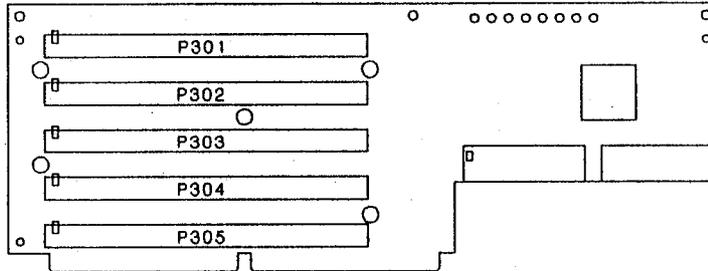

*Figure 5-3. Inside the Computer*
6. Slide the cover forward slowly, taking care not to catch any cables, wires, or components. Make sure the support flange on the bottom of the cover does not catch on the cabinet. Lift the cover up and off the computer and set it aside. The inside of your computer should look similar to Figure 5-3.